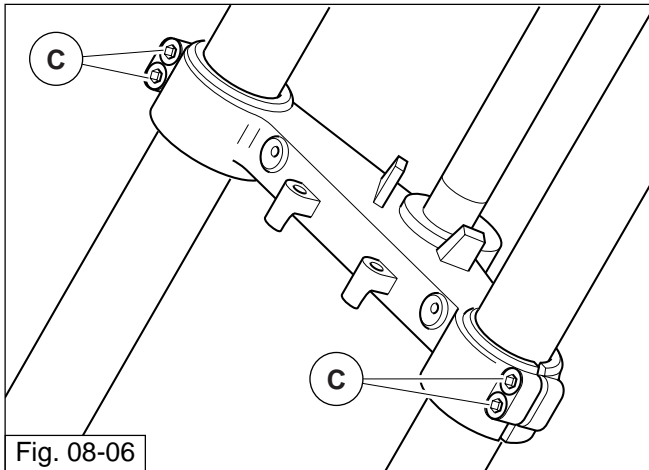

Fig. 08-06
- Svitare le viti "C" di tenuta inferiori (fig. 08-06);
- Unscrew the lower sealing screws “C” (fig. 08-06);
- Die Schrauben “C” für den unteren Halt (Abb. 08-06) lösen.